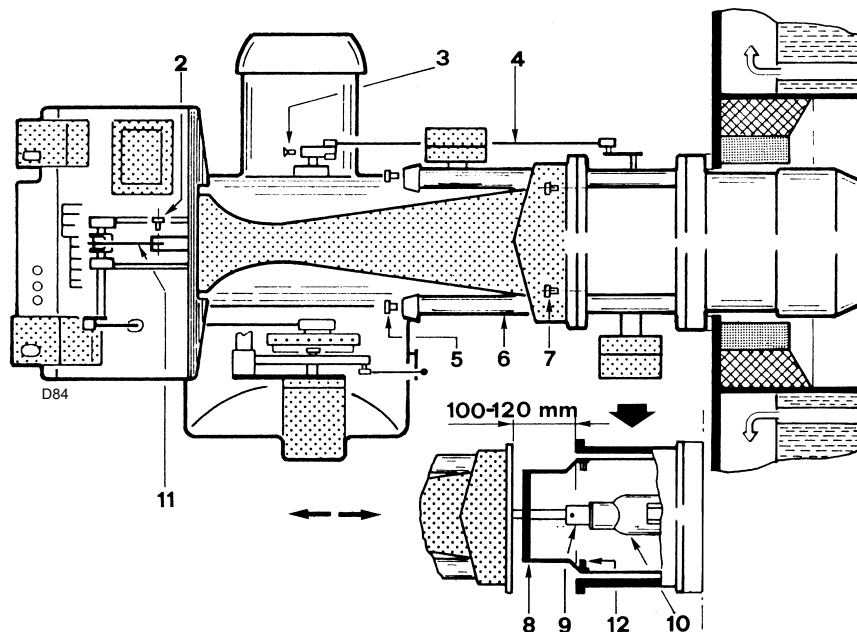

Fig. 39
- Remove the screws 7)(Fig. 39) retaining the fan 3) to the coupling 4).